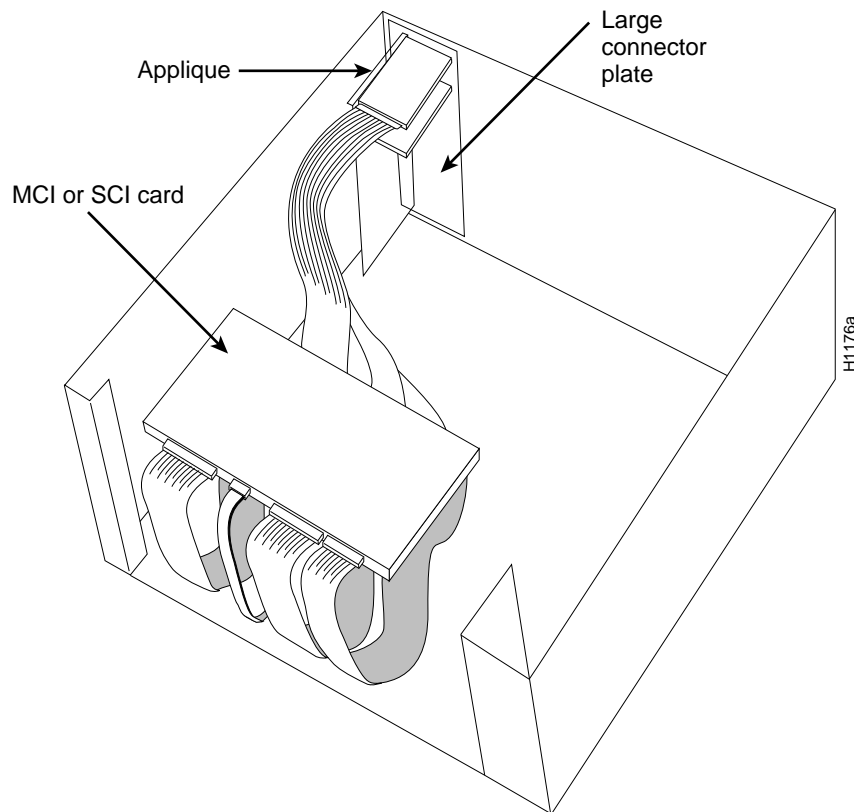

Figure 9 Typical Installation, A Chassis
- Step 3:** On the rear of the chassis, remove a blank plate from the connector area (see Figure 9). Large mounting plates are secured with six screws, small plates with four screws, and individual plates with two. Set the screws aside.
- Step 5:** Connect an internal ribbon cable between the 25-pin connector J1 on the applique and an available port on the CSC-SCI or CSC-MCI card in the system card cage (see Figure 9).